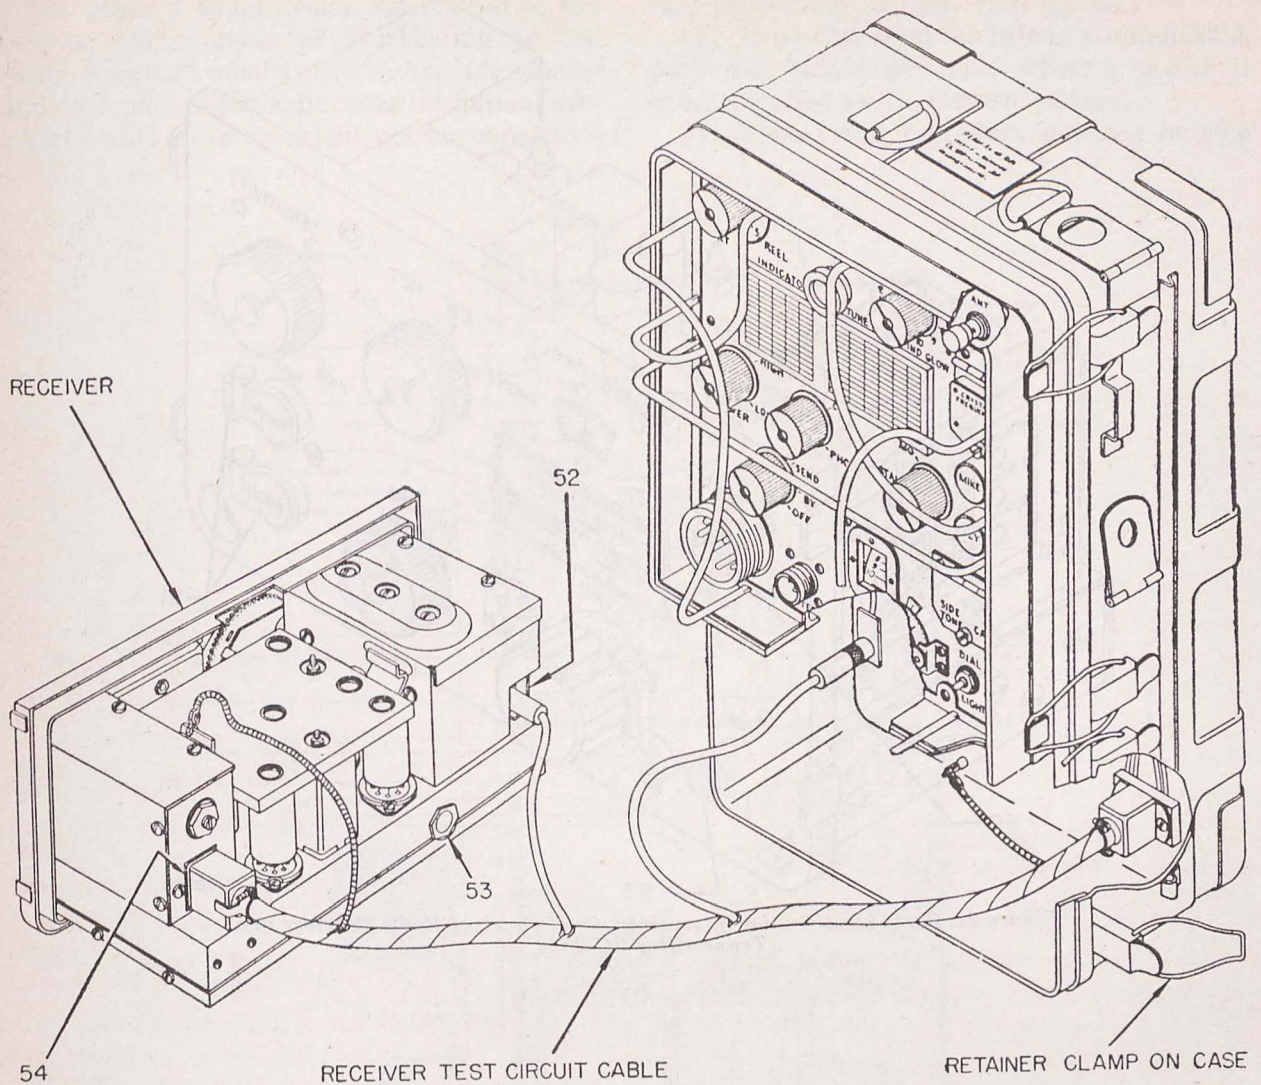

Figure 20. Receiver test set-up for Radio Receiver and Transmitter BC-1306.
(2) Plug the female connector of Cord CD-1086 into receptacle 144, making sure the retaining ring is screwed up tight, and attach male connector of same cord to the source of power.
(3) Set switch 137 at LOW, switch 136 at CW, turn switch 138 to SEND, insert key in jack 150, and close the circuit.
(4) With the application of power to the transmitter, a rapid visual observation should be made for evidence of overheating or any other unusual occurrences. Watch for the plate of Tube JAN-2E22 turning excessively hot, smoke arising from resistors, burning wires, arcing switches, intermittent sparks, capacitors shorting or arcing over, etc. Power should be turned OFF *immediately* as soon as any unusual occurrence is noted.
(5) If no abnormal conditions are noted with switch 137 in LOW position, the transmitter should then be checked with switch 137 in MED. and HIGH positions. Reference should be made to section VIII, and any abnormalities corrected before tests are made.
(6) Turn power OFF, disconnect Cord CD-1086 from receptacle 144.
(7) Replace transmitter in the case, being careful not to damage Tube JAN-2E22 and enter all plug-in connections properly without forcing. Secure all four retainer rings holding transmitter in case.
b. RECEIVER. Referring to figure 20, connect the female end of the circuit test cable to plug 54 on rear of receiver and connect the other end of the cable to receptacle 175 on the case. Fasten alligator grounding clips on both ends of cable to chassis and case.